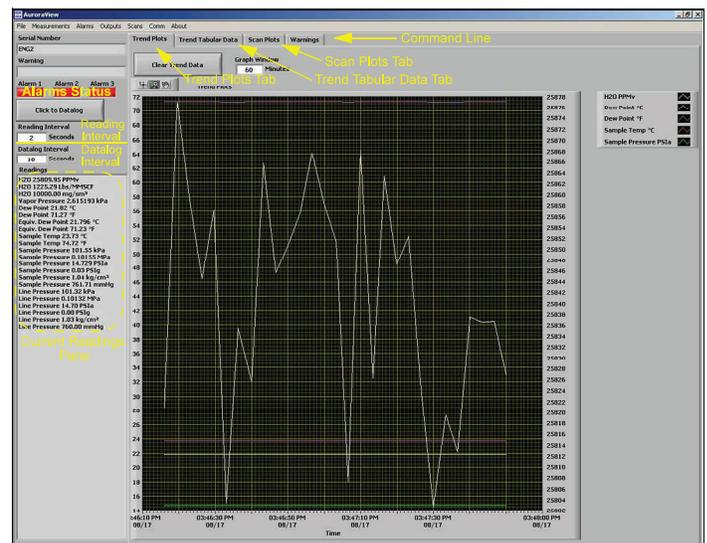

Figure 29: AuroraView main screen
- AuroraView boots up and displays a screen similar to *Figure 29* below.